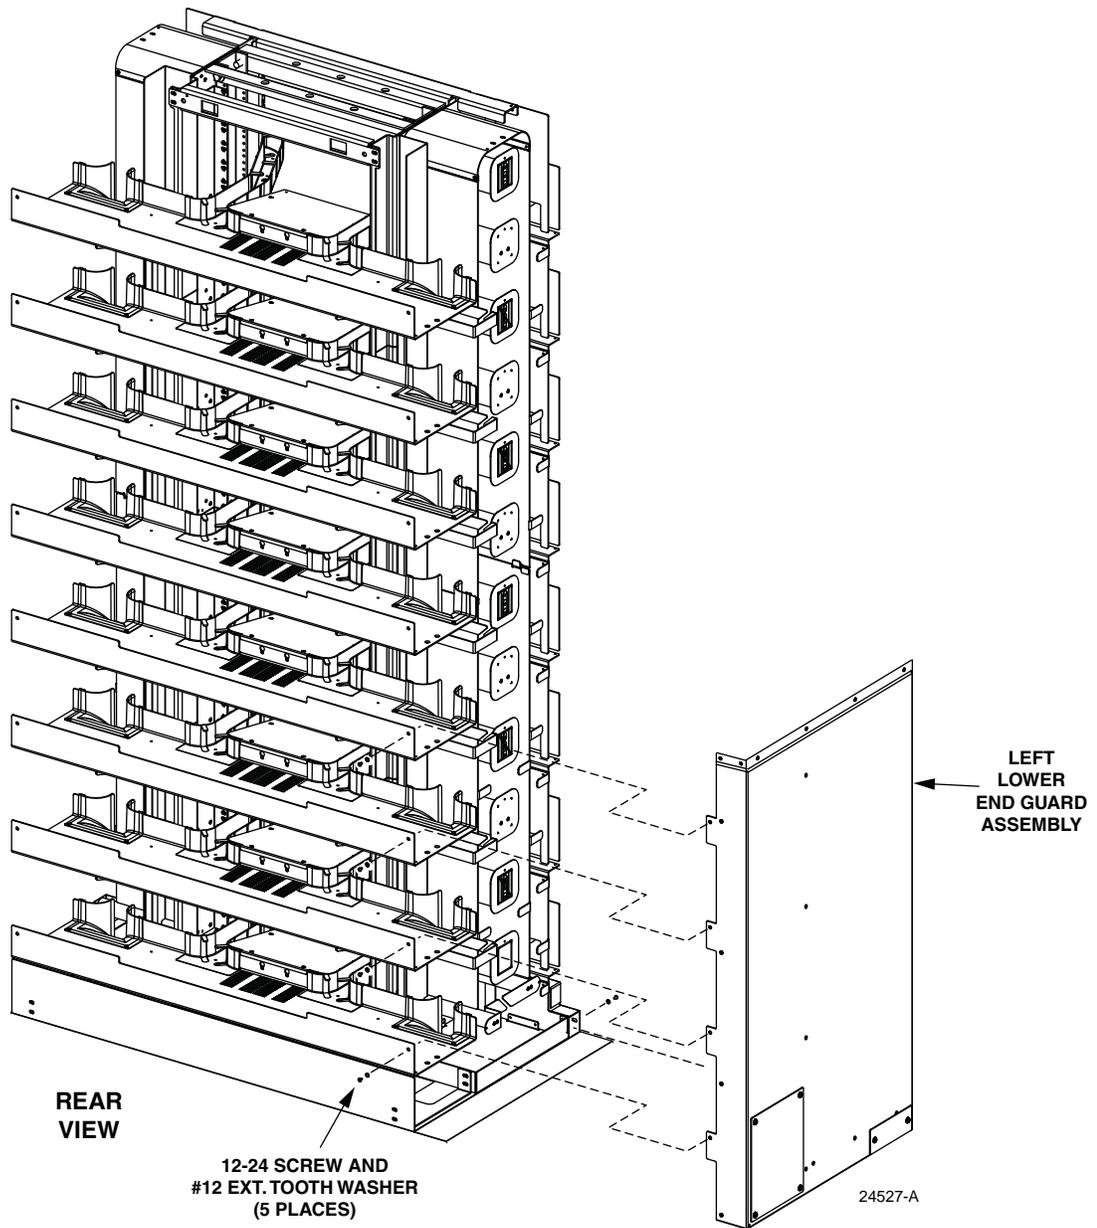

Figure 18. Lower End Guard Installation
2. Position lower end guard against the tower. See Figure 18.